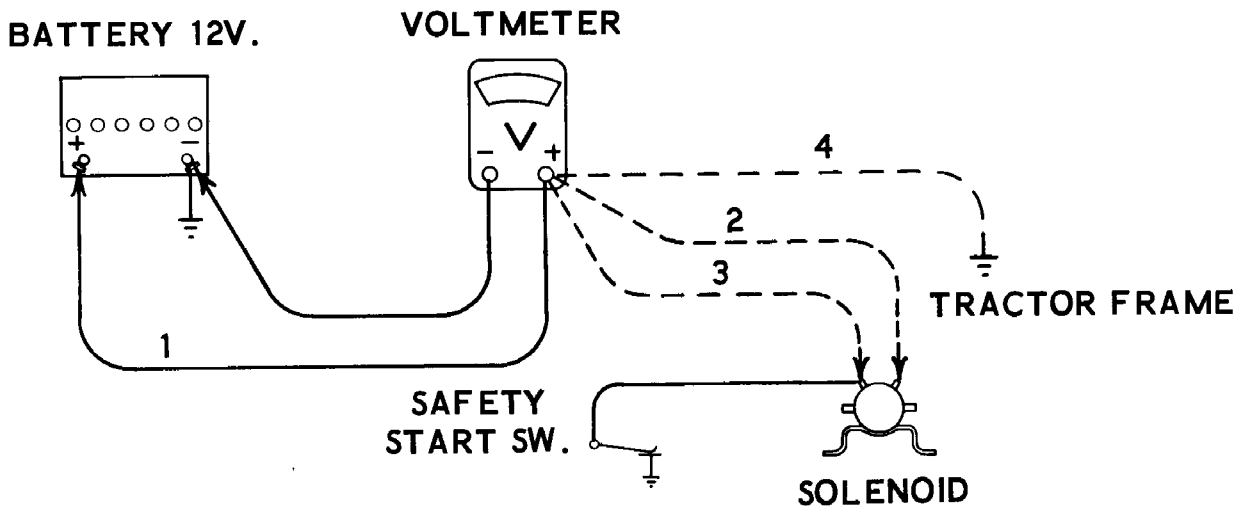

Figure 12
1. Connect red voltmeter lead to battery positive terminal, black to battery negative #1. Crank engine and record voltage. See Figure 12.